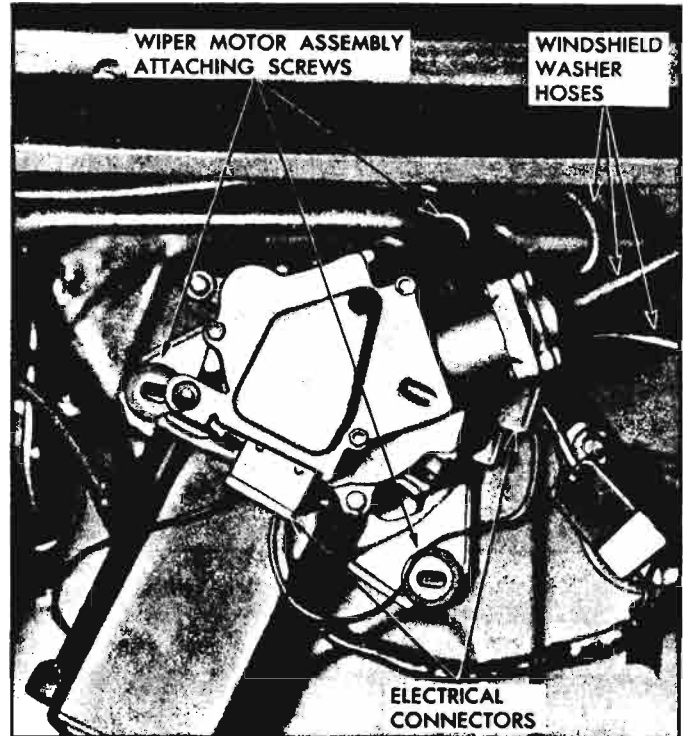

Fig. 10-28—Windshield Wiper Motor Installed
3. Remove the three screws (fig. 10-28) securing the motor assembly to the body and remove the motor. See Section 8—"Electrical Systems" for wiper motor electrical checks and service.